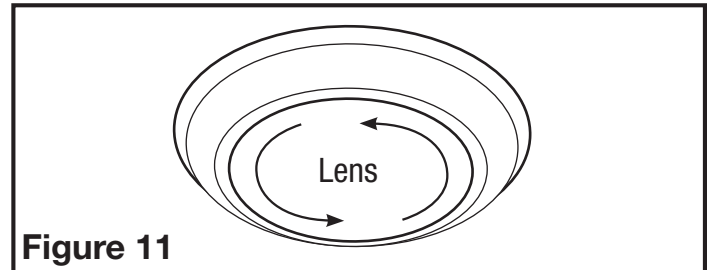

Figure 11
- AKLC70RCB:** Gently twist the light lens counter clockwise to release from the grill (Figure 11).